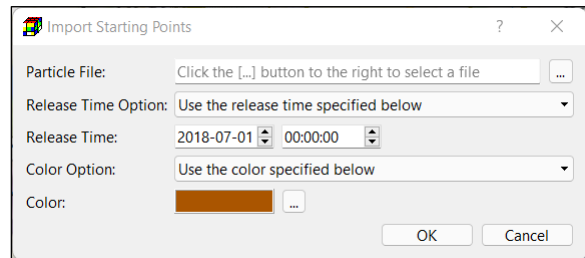

Figure 170. The Import Particles dialog box
3. **Import Starting Points:** This will display the Import Starting Points dialog box (Figure 170) that assists you to import starting points (particles). This dialog box has the following features.